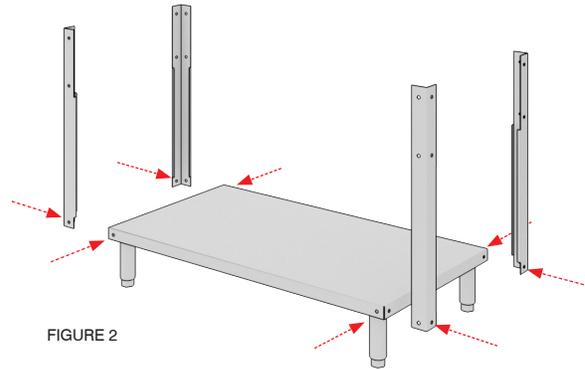

FIGURE 2
2. Turn bottom over. Install corner posts as shown in figure 2. Use $\frac{1}{4}$ -20 x $\frac{1}{2}$ " Truss Head screws included in packet. Tighten completely